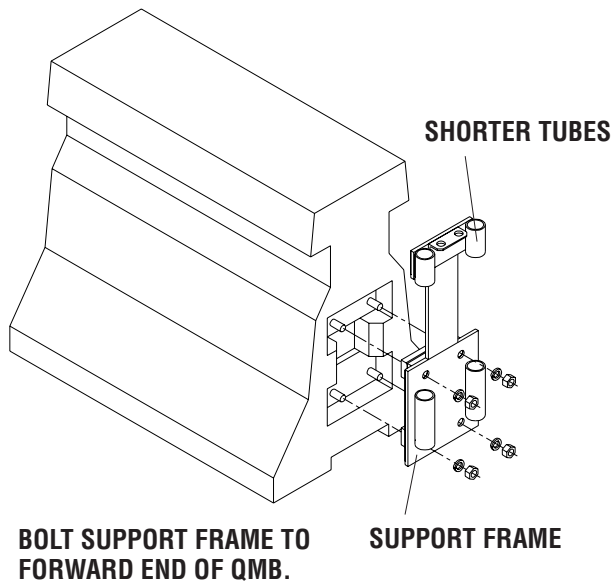

Figure 12
Step 2: Install N-E-A-T® QMB Support Frame (See Figure 12)